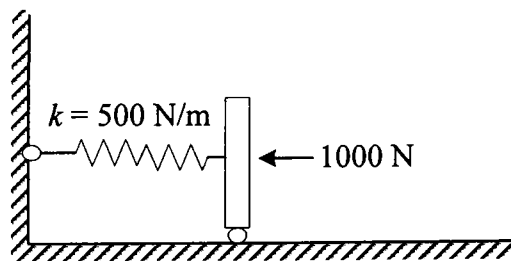

Figure Q2[b]
- [b] Use the principle of minimum potential energy to find the equilibrium of displacement of spring system as shown in Figure Q2[b]. Briefly discuss your findings.